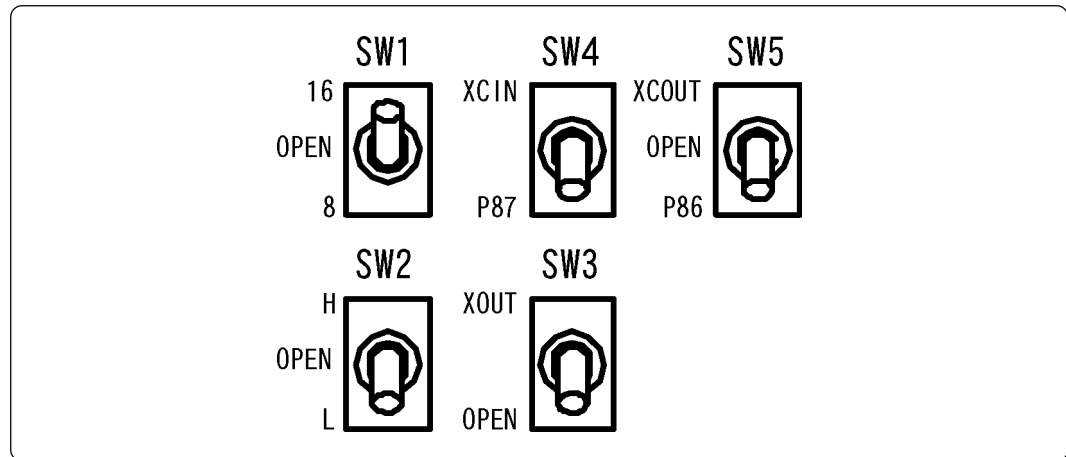

Figure 4.3 Switch settings when running self-checks
- (1) Set the switches in the emulation pod same as the factory setting (see Figure 4.3).
- (2) When the target system is connected, disconnect the target system.
- (3) Within 2 seconds of activating power to the emulator, press the RESET switch on the emulator front panel to switch the emulator to the maintenance mode.
- (4) Check the "SAFE" LED starts blinking and then press the RESET switch again.
- (5) The self-checks will start. If the normal result is displayed in about 40 seconds, self-checks terminated normally.
- Check if the switches in this product are set same as the factory-settings (Figure 4.3).